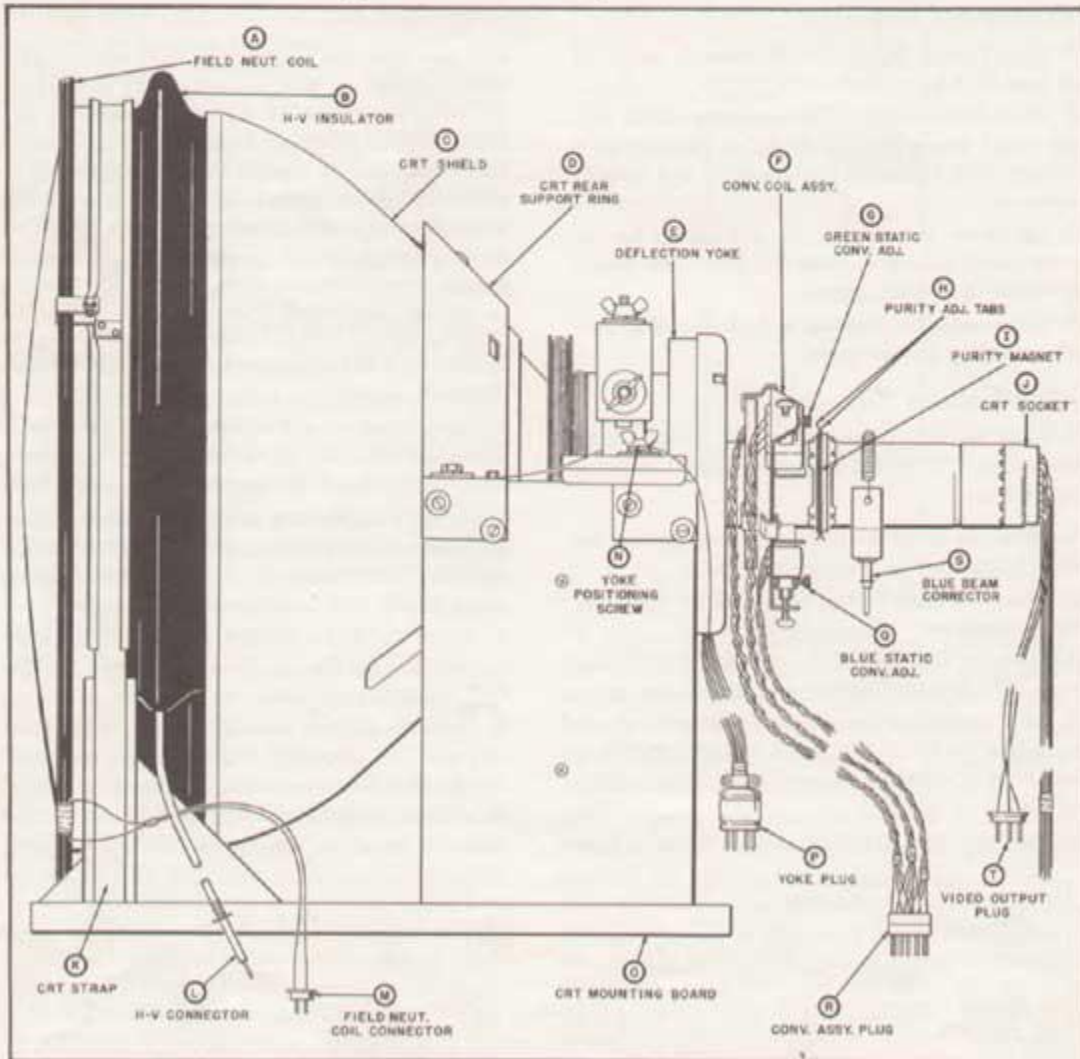

Fig. 3—Picture tube assembly.
1. Turn the set off, open the CRT High-Voltage Connector, ("L" in Fig. 3) and insert a T-Connector in the lead.
4. Check the physical positioning of the Yoke, Convergence Coil Assembly, Purity Magnet (or coil) and the Blue Beam Corrector. The correct positioning of these components is shown in Fig. 3.
5. Adjust the Red, Green and Blue Static Convergence Magnets (Fig. 3) and the Blue Beam Corrector ("S" in Fig. 3) to converge (superimpose) the group of dots, (a red, a green and a blue dot) located nearest the center of the screen. See Fig. 4B for adjustment procedure.
8. Loosen the Yoke Positioning Screws ("N" in Fig. 3) and slide the Deflection Yoke back toward the base of the CRT as far as possible without
Note: If the receiver uses a Purity Magnet, the field strength is increased by separating the tabs (H in Fig. 3) on the magnet. If a Purity Coil is used the field strength is increased by turning the Purity control clockwise. Use the weakest field that provides satisfactory results.
2. Adjust the Red, Green, and Blue Static Convergence Magnets and the Blue Beam Corrector (neck of CRT, Fig. 3) until the group of dots nearest the center of the screen is converged (see Fig. 4B) and forms a single white dot.